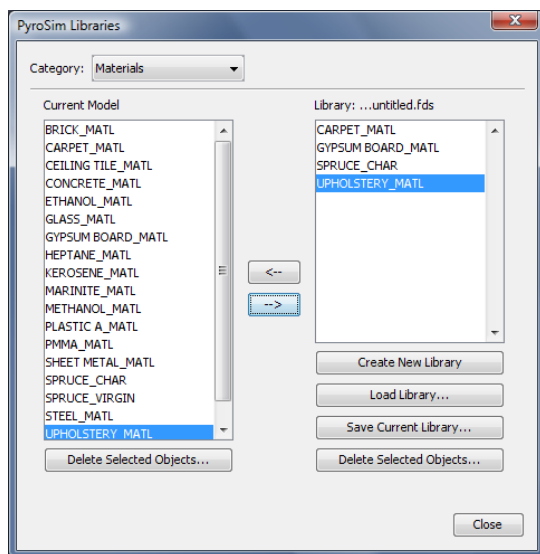

Figure 21:1. Creating a library of materials
2. Select the **Category** that you want to manage and move selected items from the **Current Model** into the **Library**, Figure 21:1.